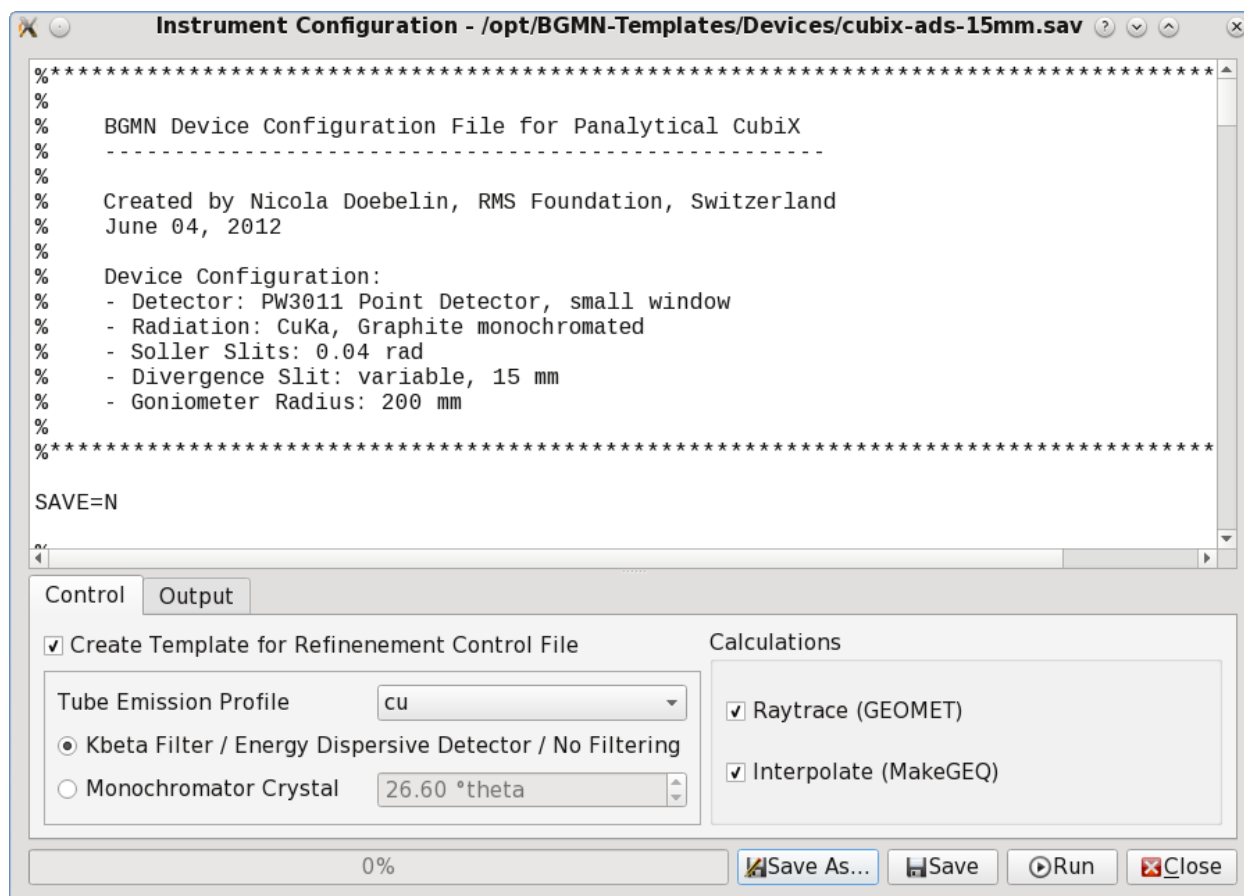

Figure 18: „Instrument → Edit Configuration...” opens a dialog to edit an existing instrument configuration.
2. The instrument dialog shown in Fig. 18 will be shown. Edit the file to precisely match your hardware configuration.